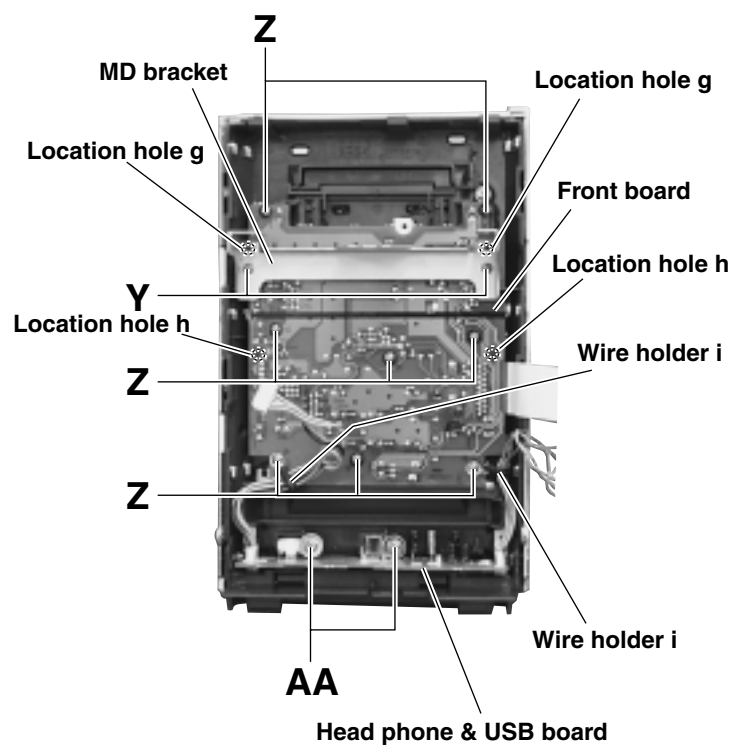

Fig.16
■ Removing the front board (See Fig.16)
■ Removing head phone & USB board (See Fig.16)